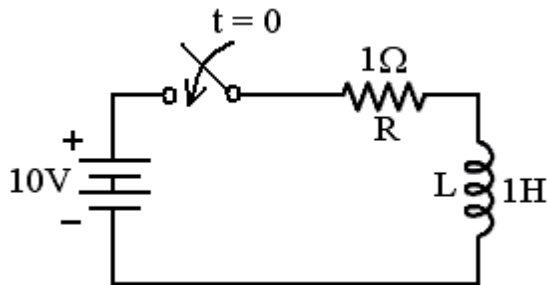

Fig.2
- b) Determine  $i(t)$  for the circuit shown in Fig.2. When the switch is closed at  $t = 0$ . Assume initial current through inductor is zero. [8+7]